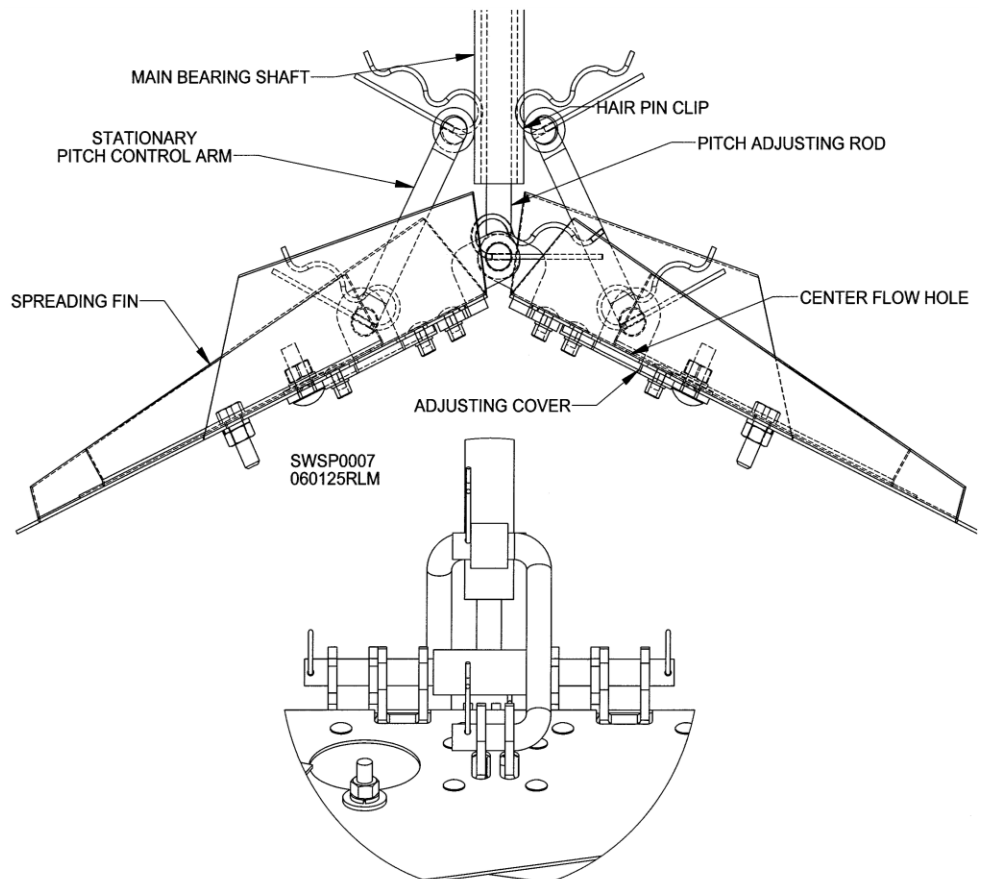

Fig. 2 – Mounting pans to spreader
4. To mount pan to spreader, lower pitch adjusting rod by loosening locking handle and pre-spread disc inside of cone. Lower adjusting rod so its end is about 3" below main bearing shaft. See Fig. 2. One end of stationary pitch control arm comes mounted to pan. Mount other end of control arm to main bearing shaft. Secure with hairpin clips. Repeat this step for second pan.
5. Remove hinge pin from adjusting rod. Place spreading pans and pitch adjusting rod together and replace hinge pin. Secure hinge pin with hairpin clip. Hairpin clips should be snapped on all the way. See Fig. 2. See operating instructions for setting angle of pans.
Center flow holes (see Fig. 2) control amount of grain that falls in center of bin. If grain is too high in center, rotate cover to make opening smaller. If grain is too low in center, rotate cover to make opening larger.